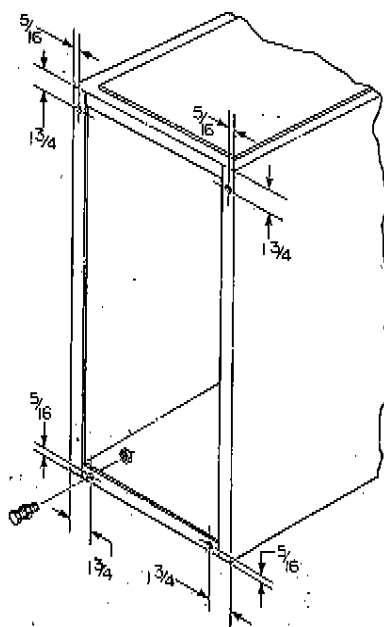

Fig. 12—Leveling Legs
When furnace is used in upflow position with side inlet(s), leveling legs may be desired. (See Fig. 12.) Install field-supplied corrosion-resistant 5/16-in. machine bolts and nuts.
1. Position furnace on its back, locate and drill a 5/16-in. diameter hole in each bottom corner of furnace. (See Fig. 12.) Holes in bottom closure panel may be used as guide locations.